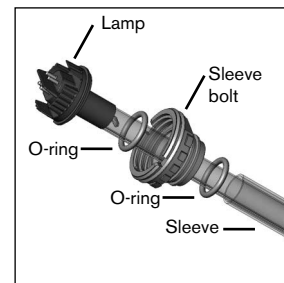

Figure 5
- Remove first O-ring, sleeve bolt and second O-ring from lamp sleeve (Figure 5).